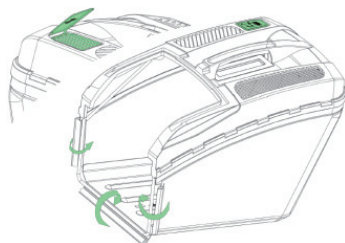

Fig.4A
□ Clip the plastic edges of the bag onto the frame and attach the clips as shown. (See Fig.4A)